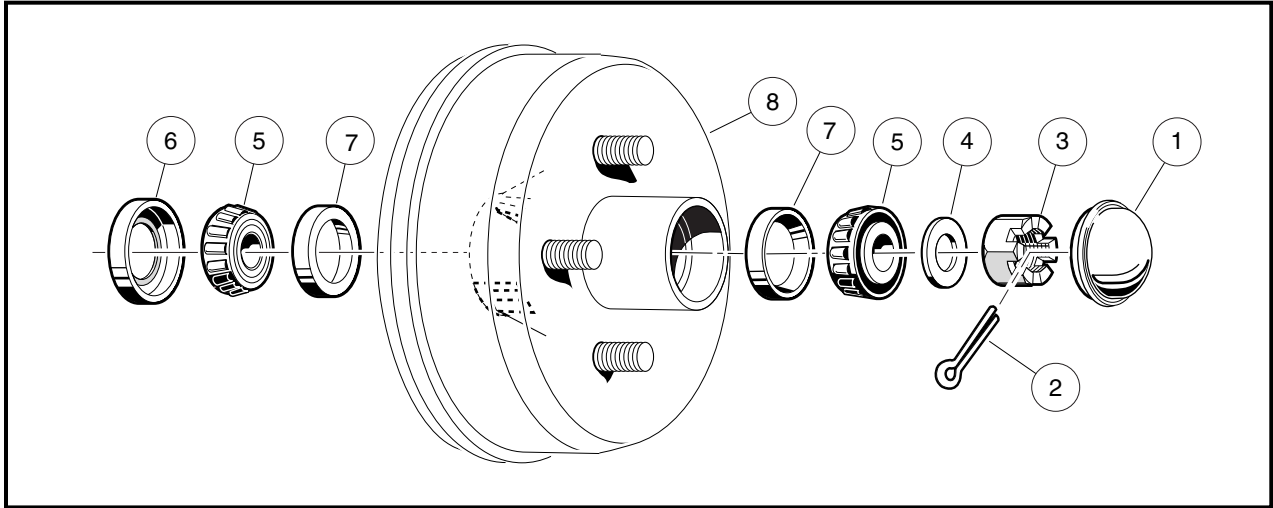

Figure 6-2 Front Spindle and Brake Drum Assembly
- 4.1. Remove the dust cover (1) and cotter pin (2) (**Figure 6-2, Page 6-7**).
- 4.2. Use a torque wrench and a Torx #T-27 driver, or hydraulic brake adjuster (CCI P/N 102169401), and gently rotate the adjuster bolts (**Figure 6-2, Page 6-7**). See following NOTE.